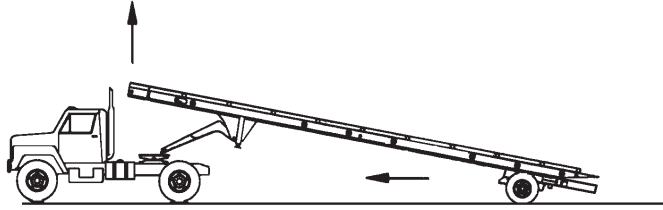

Figure 3-5 Chain Connections
- Connect the container chain harnesses provided with trailer to the container corner castings (**See Figure 3-5**).
- c. Connect the container chain harnesses provided with trailer to the container corner castings (**See Figure 3-5**).